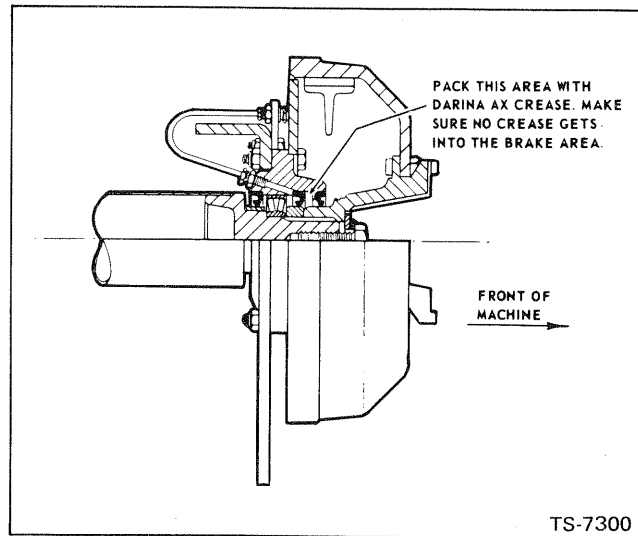

Fig. 9-4
6. Pack the area behind the above removed seal with Darina AX grease. See Fig. 9-4 which illustrates the area to be greased. **MAKE SURE** that no grease gets into the brake area after the seal has been reassembled.